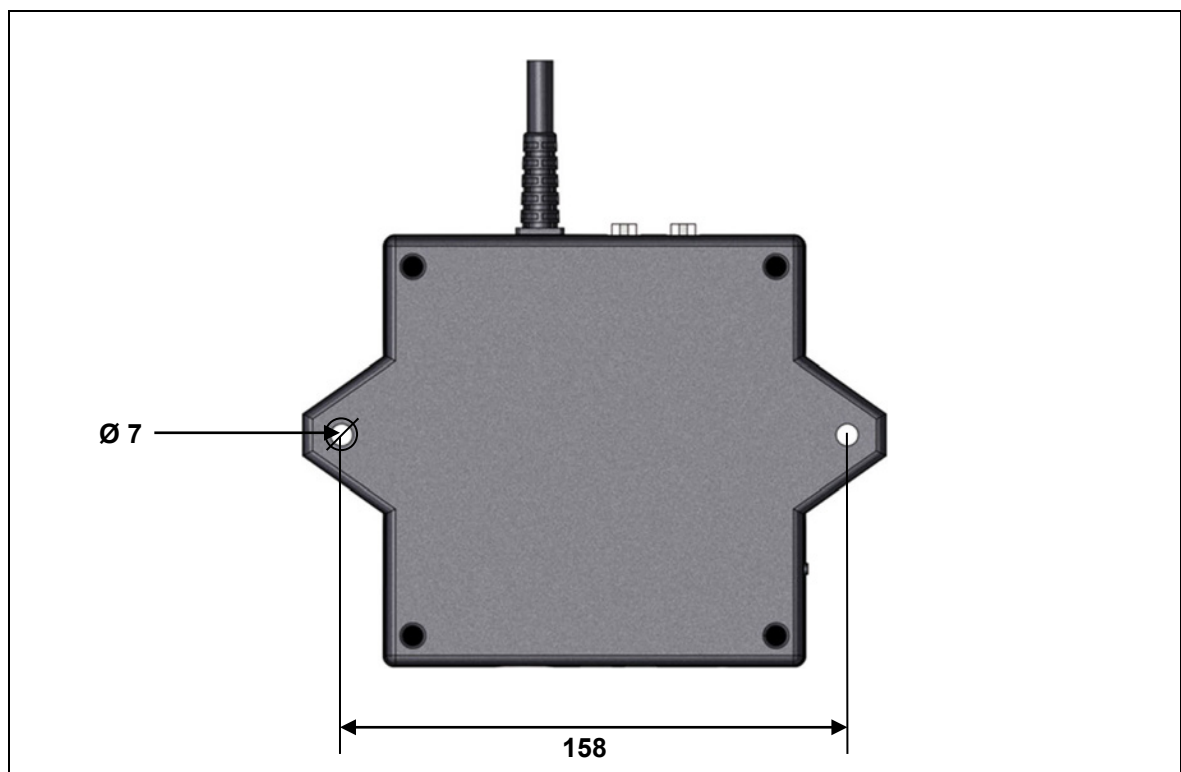
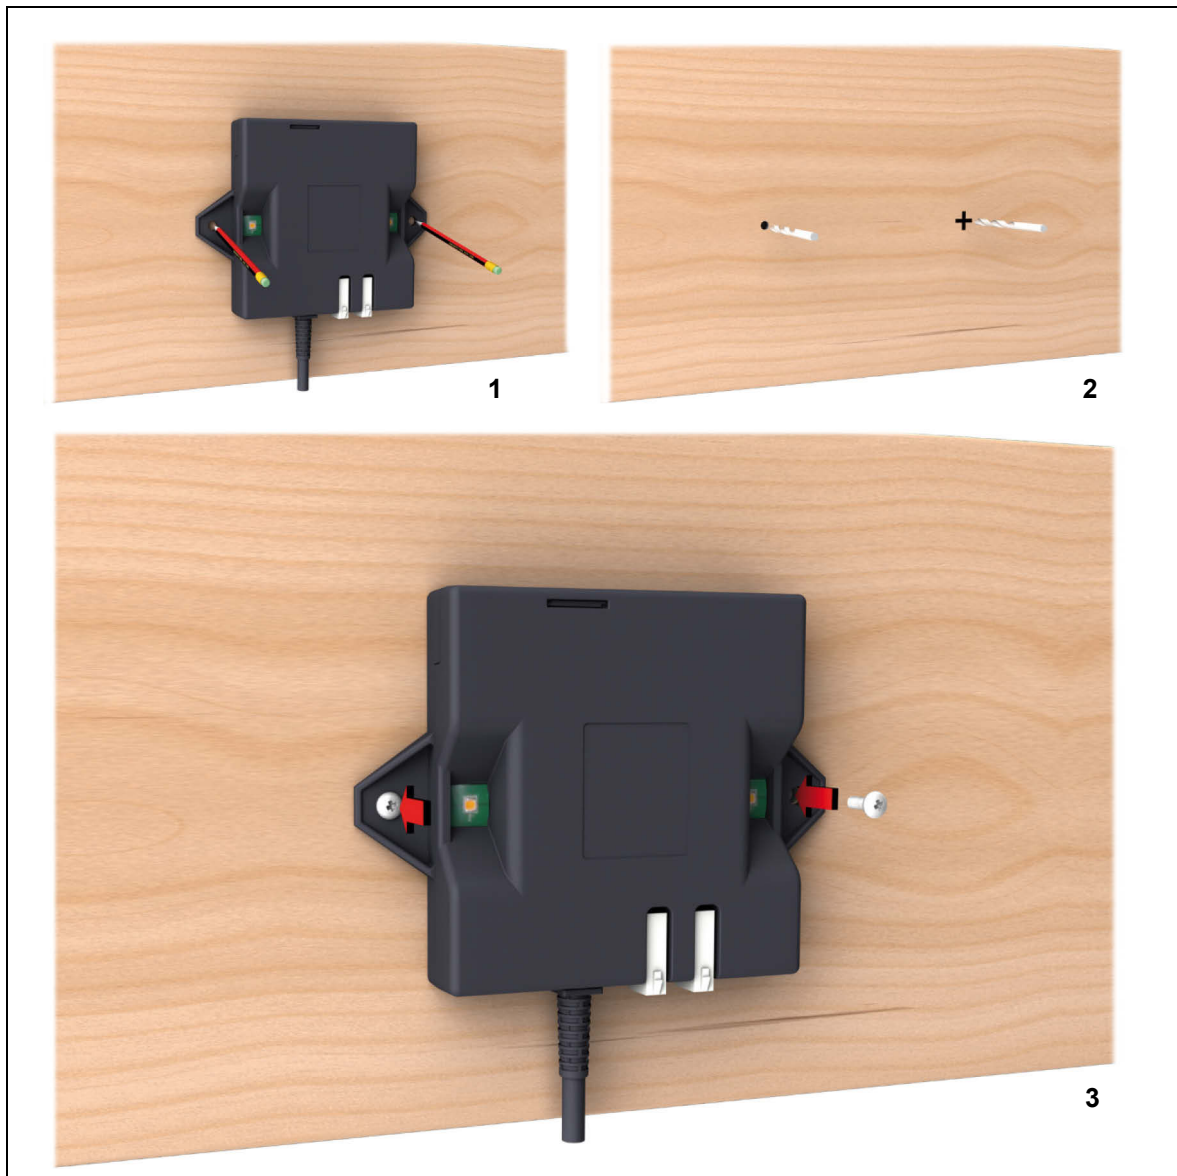

Figure 5 Drilling dimensions (example): Mounting points on the CONTROL UNIT (in mm)
Figure 6 Installing the CONTROL UNIT
- The drilling dimensions shown in Figure 5 only illustrate an example and are not necessarily authoritative for all applications.
Screw the control unit onto the end product (as shown in Figure 6). Use the mounting holes shown in Figure 5 located on the control unit. Use screws meeting the requirements of DIN 7049 with 4.8 mm diameter and of suitable length (5 mm plus the screw-in depth into the end product).